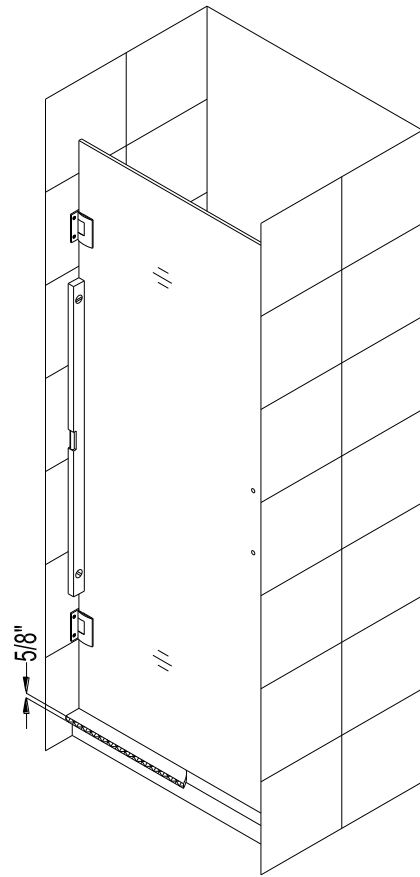

fig. 2
2. Place a piece of flat timber (5/8" thick) on the threshold or shower tray. Take the glass door and put it on the flat timber. Push the door against the wall, adjust its position and level it. **Be sure the door is absolutely vertical.** See fig. 2 for details.